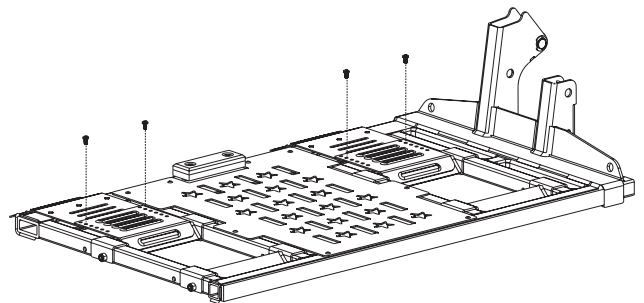

Figure 6-27
- Reattach the ramps using a $\frac{1}{8}$ " Allen Wrench and $\frac{3}{8}$ " socket (8 ft-lb). See Figure 6-27.